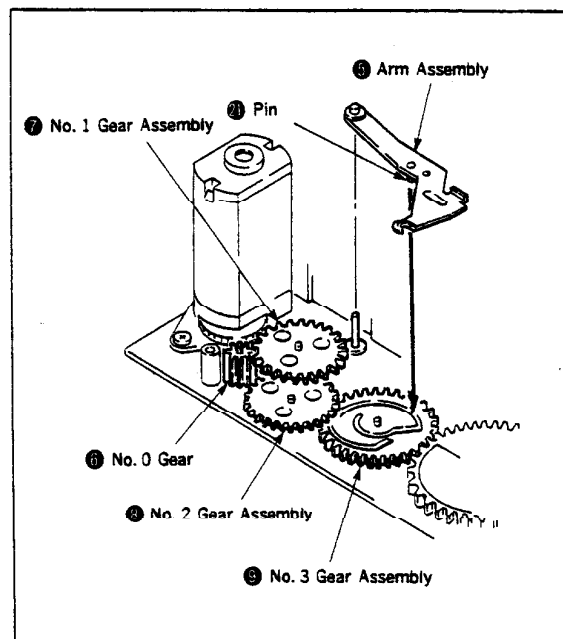

Fig. 34
- 7) Mount the No. 2 gear assembly ㊶, No. 1 gear assembly ㊷ and No. 0 gear ㊸ in that order. Mount the arm assembly ㉖ to the shaft and put the pin ㉘ in the groove of the No. 3 gear assembly ㊵, (Fig. 34)